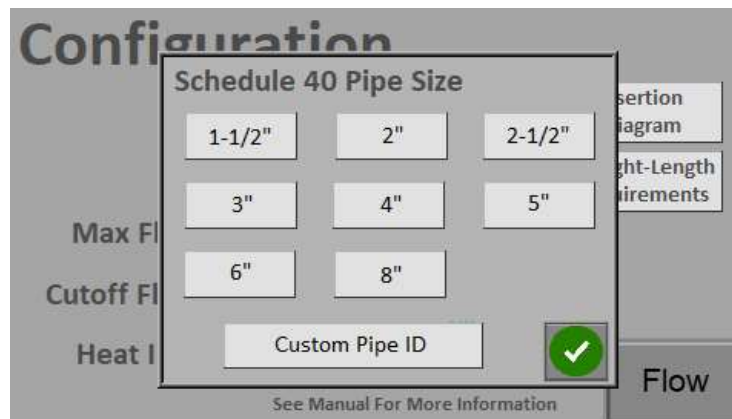

Figure 8: Schedule 40 Pipe Size Pop-up Window
12. Tap the button beside "Pipe Size". The following menu should pop-up as shown in Figure 8 below.